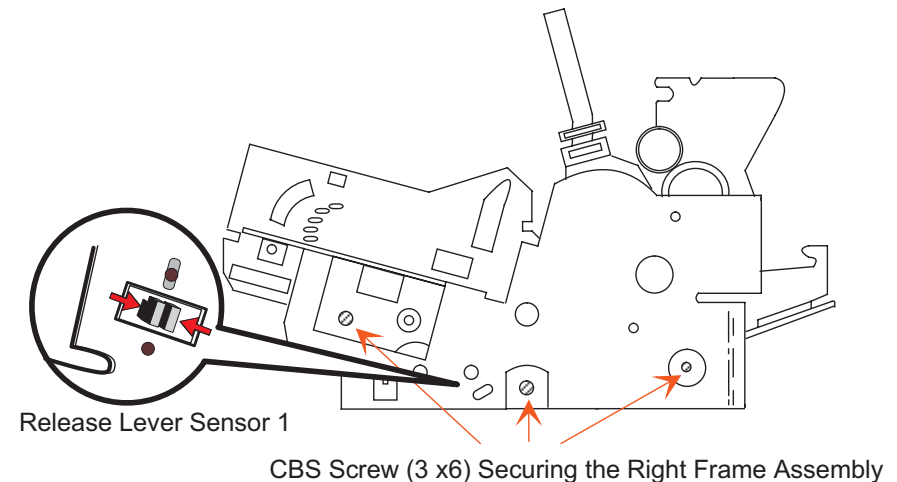

Figure 3-21. Removing the Right Frame Assembly
- Step 4 for removing the release sensor 1 is added. (See Figure 3-21 for its location.) In the FX-2170, the release sensor 1 is on the left frame.